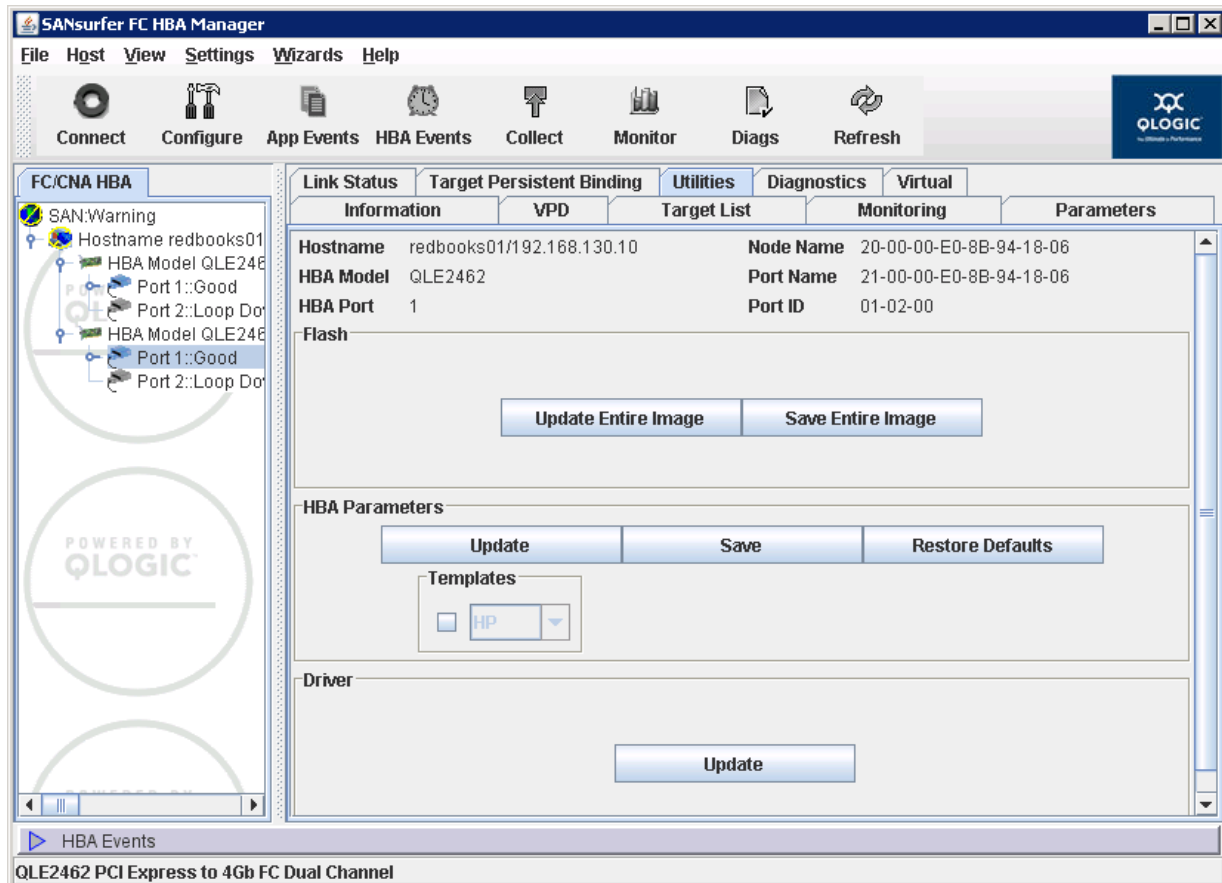

Figure 5-30 QLogic sansurfer utility
1. In order to update the BIOS version of the HBA, click the **Utilities** tab, and you will be presented with a window shown in Figure 5-30 on page 314.